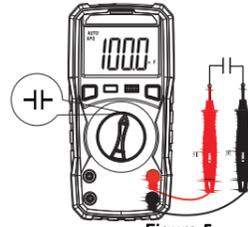

Figure 5
(4). CAPACITANCE MEASUREMENT (Figure 5)